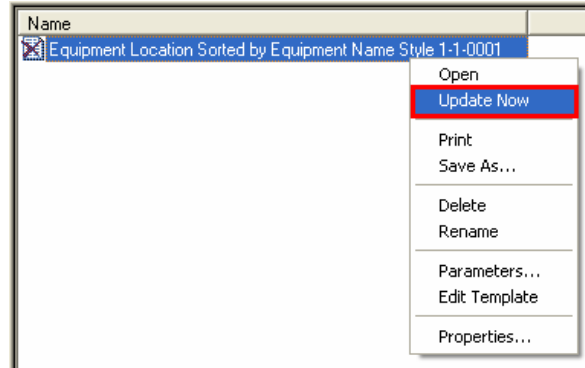

Figure 7: Update Now Command
11. Right-click the report, and click **Update Now** to update the report to the model database as shown in Figure 7.